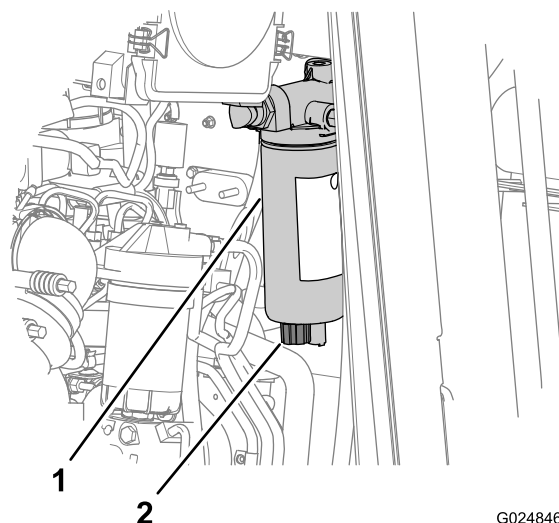

Figure 20
2. Place a drain container below the drain valve on the fuel-water separator (Figure 20).